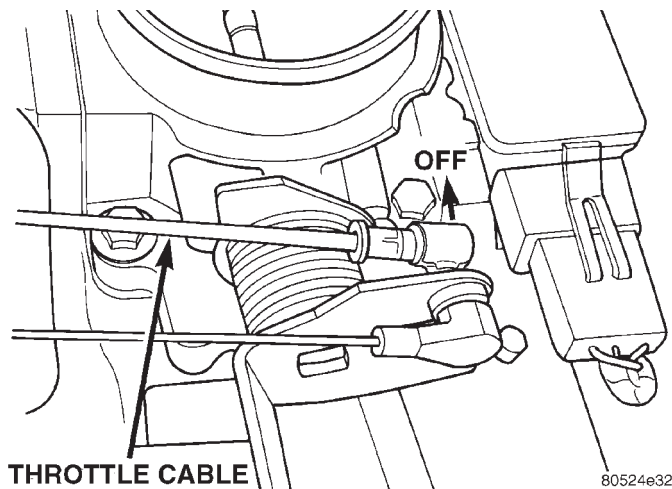

Fig. 40 Throttle Cable at Throttle Body—Typical INSTALLATION
- (5) Remove throttle cable ball end socket at throttle body linkage (snaps off) (Fig. 40).
- (6) Remove throttle cable from throttle body mounting bracket by compressing retainer tabs and pushing cable through hole in bracket.
- (7) Remove throttle cable from vehicle.